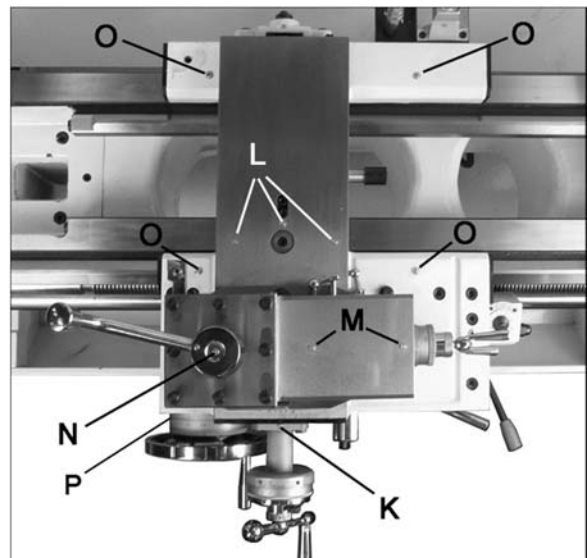

Figure 14 – Ball Oilers
8. **Cross Slide** – Daily lubricate one ball oiler on the handwheel housing (K, Figure 14) and three ball oilers on the platform (L, Figure 14).
9. **Compound Rest** – Daily lubricate two ball oilers (M, Figure 14) on top of compound rest.
10. **Tool Post** – Regularly clean dirt and coolant around the tool post to maintain its repositioning accuracy. Daily lubricate one ball oiler on top the clamping hub (N, Figure 14).
11. **Saddle** – Daily lubricate four ball oilers (O, Figure 14) and one ball oiler on the handwheel shaft (P, Figure 14).